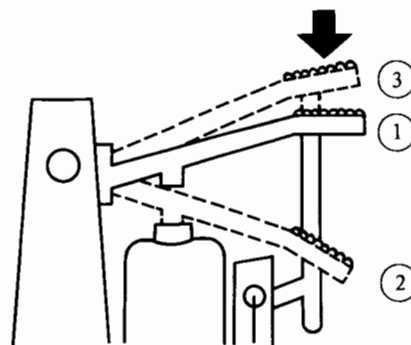

Figure 3-1. Green Lever Settings
3. Press the Green Lever down to position ② (see figure 3-1) and hold it there for one second.
5. The ALERT Indicator will blink for about ten seconds. When it stops blinking, lift the Green Lever to position ③.
4. Release the Lever and confirm that it stops at position 1 as shown in Figure 3-1.